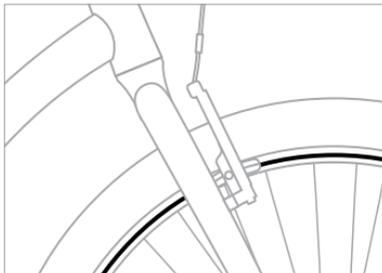

Figure 2.1 Aluminium rim wear-indicator.
- A shallow groove around the circumference of the rim (Figure 2.1). If the groove is no longer visible in any spot, replace the rim.